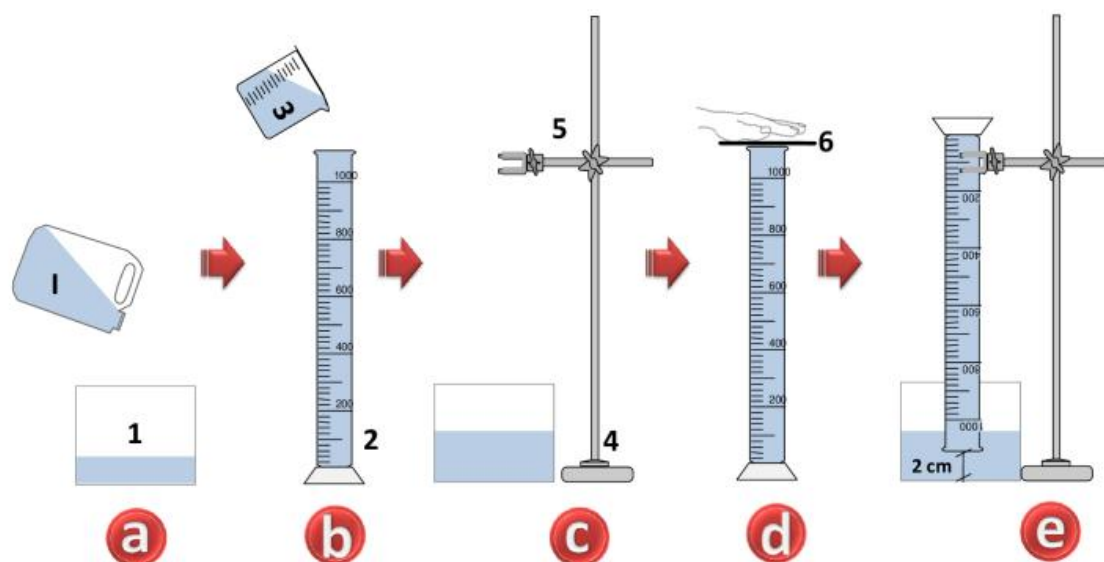

Figure 2
**A. Instructions for assembling the gas measurement equipment, according to Figure 2.**
A.2. Fill the graduated cylinder (ID# 2) with the water poured in step A.1 by using a 250 ml beaker (ID# 3) (Figure 2 b).